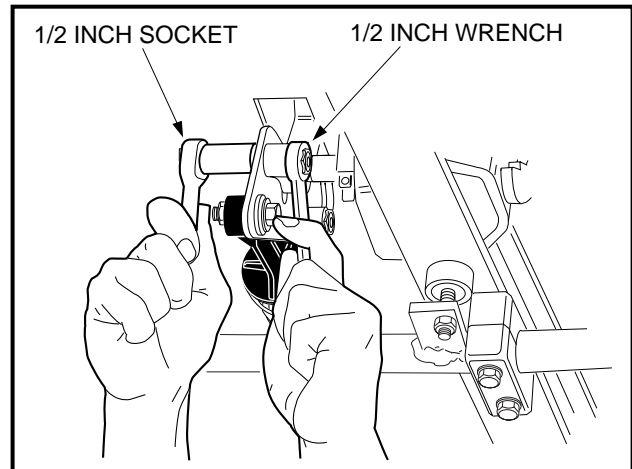
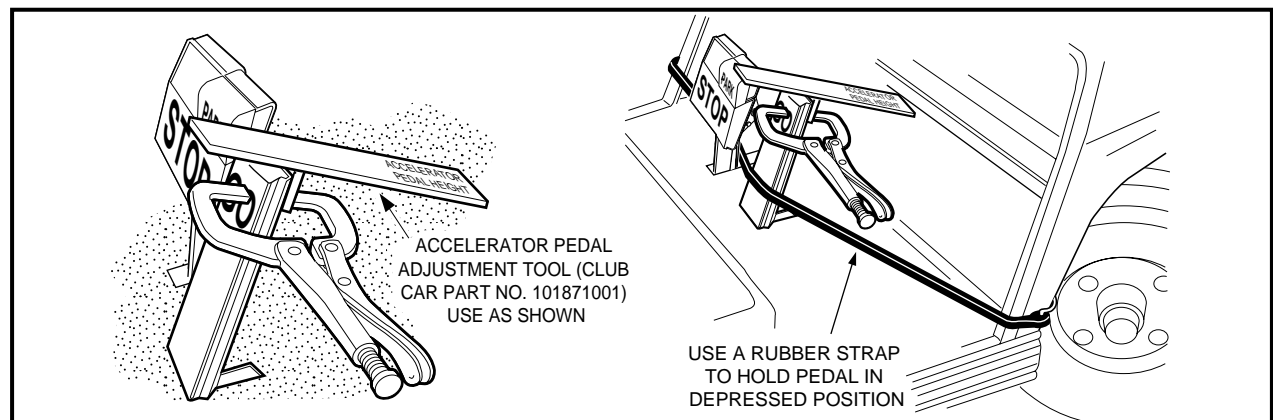

Figure 5-9 Accelerator Pedal Height Adjustment
Figure 5-10 Accelerator Pedal Height Adjustment
- 4.1. Loosen the nut and bolt (Figure 5-9, Page 5-5) securing the accelerator pedal to the pivot plate. Clamp the accelerator pedal adjustment tool (Club Car Part No. 1018710-01) to the accelerator pedal, with the end marked **accelerator pedal height** closest to the floorboard, next depress the accelerator pedal until the end of the tool rests against the floorboard (pedal height should be 5-5/8 inches (14.3 cm)). Use a rubber strap to hold pedal in position against the floorboard and then tighten nut to 26 ft-lb (35.3 N-m) (Figure 5-10, Page 5-5).